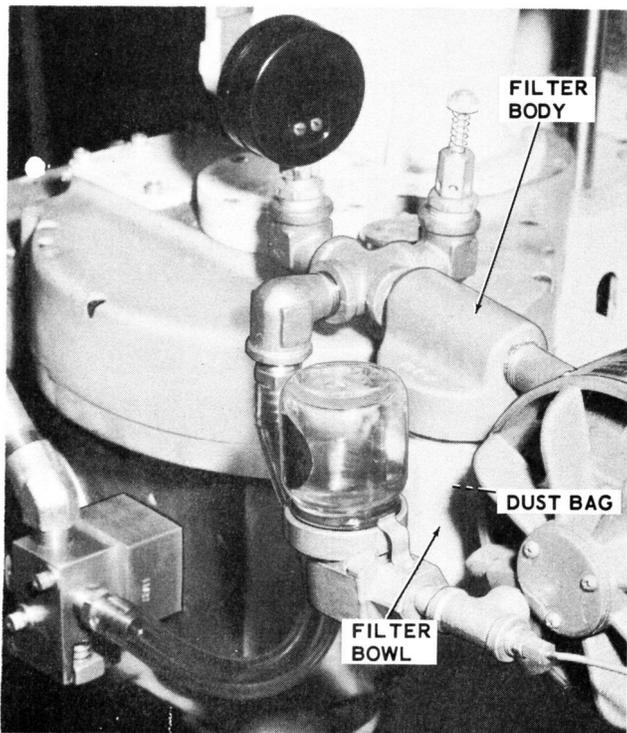
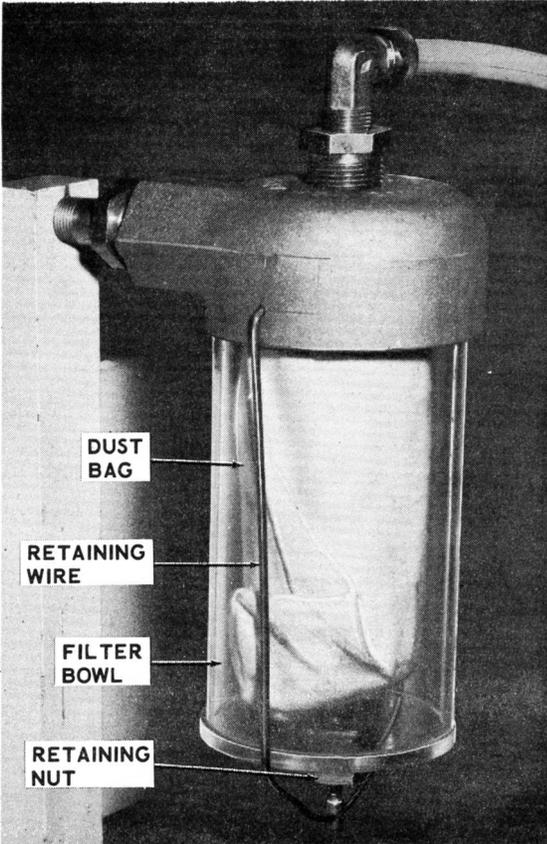

Figure 5-1. Servicing Vacuum Pump Filters
Figure 5-2. Vacuum Opener System Filter
A filter is installed at each vacuum pump (Figure 5-1) and at the vacuum opener station (Figure 5-2). Clean these filters at least once a day.
a. Unscrew filter bowl (Figure 5-1) from filter body of each vacuum pump. Remove dust bag with holder. Clean by brushing. Clean filter bowl.
b. Vacuum opener manifold. Unscrew retaining nut (Figure 5-2) at bottom of vacuum opener filter and swing retaining wire out and upward from filter bowl. Remove filter bowl from filter body. Clean filter bag by brushing. Clean filter bowl and position in filter body. Swing retaining wire downward into position under filter bowl and tighten retaining nut.